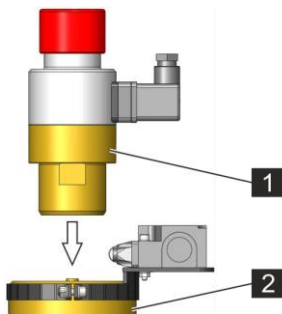

Fig. 96: Mounting the electrical release device
4. ➤ Screw the electric release device (Fig. 96/1) onto the valve (Fig. 96/2) from above ↗ *"Mounting on extinguishing agent cylinders" on page 101.*